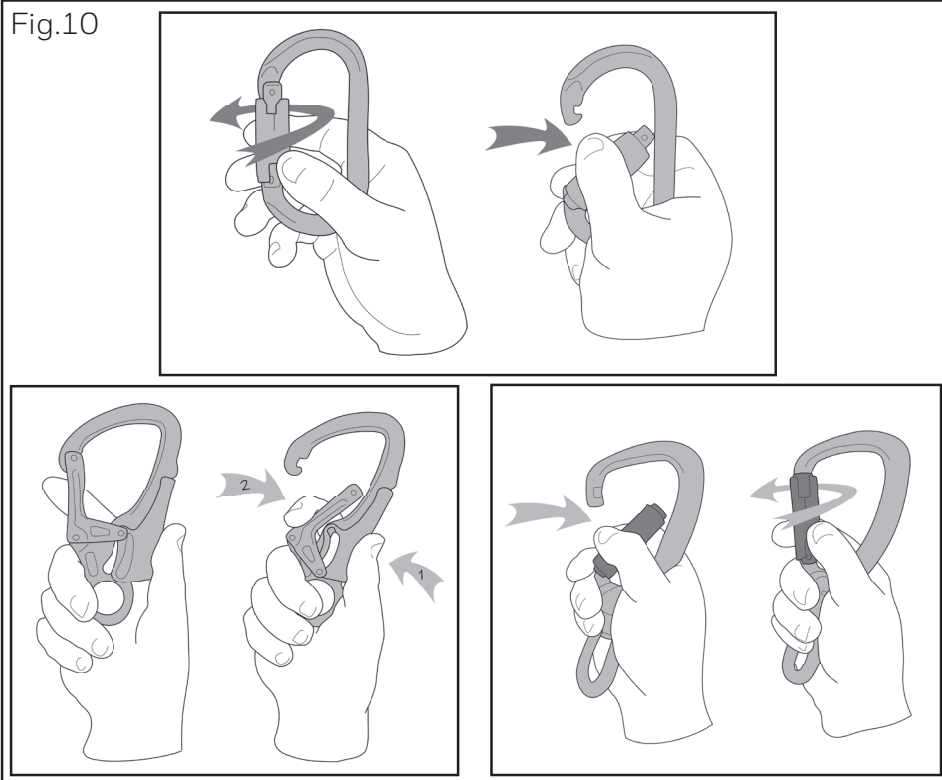

Fig.11
- Check that the geometry of the structure permits the use of a work positioning system (small diameters and sharp edges are prohibited). See figures 11.